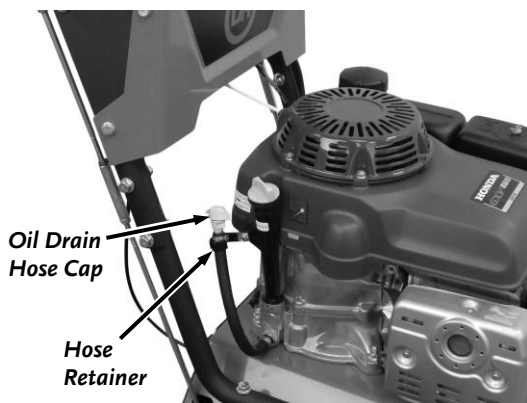

Figure 28
2. Unscrew the Oil Drain Cap counterclockwise to open the end of the Drain Hose Assembly (**Figure 28**).